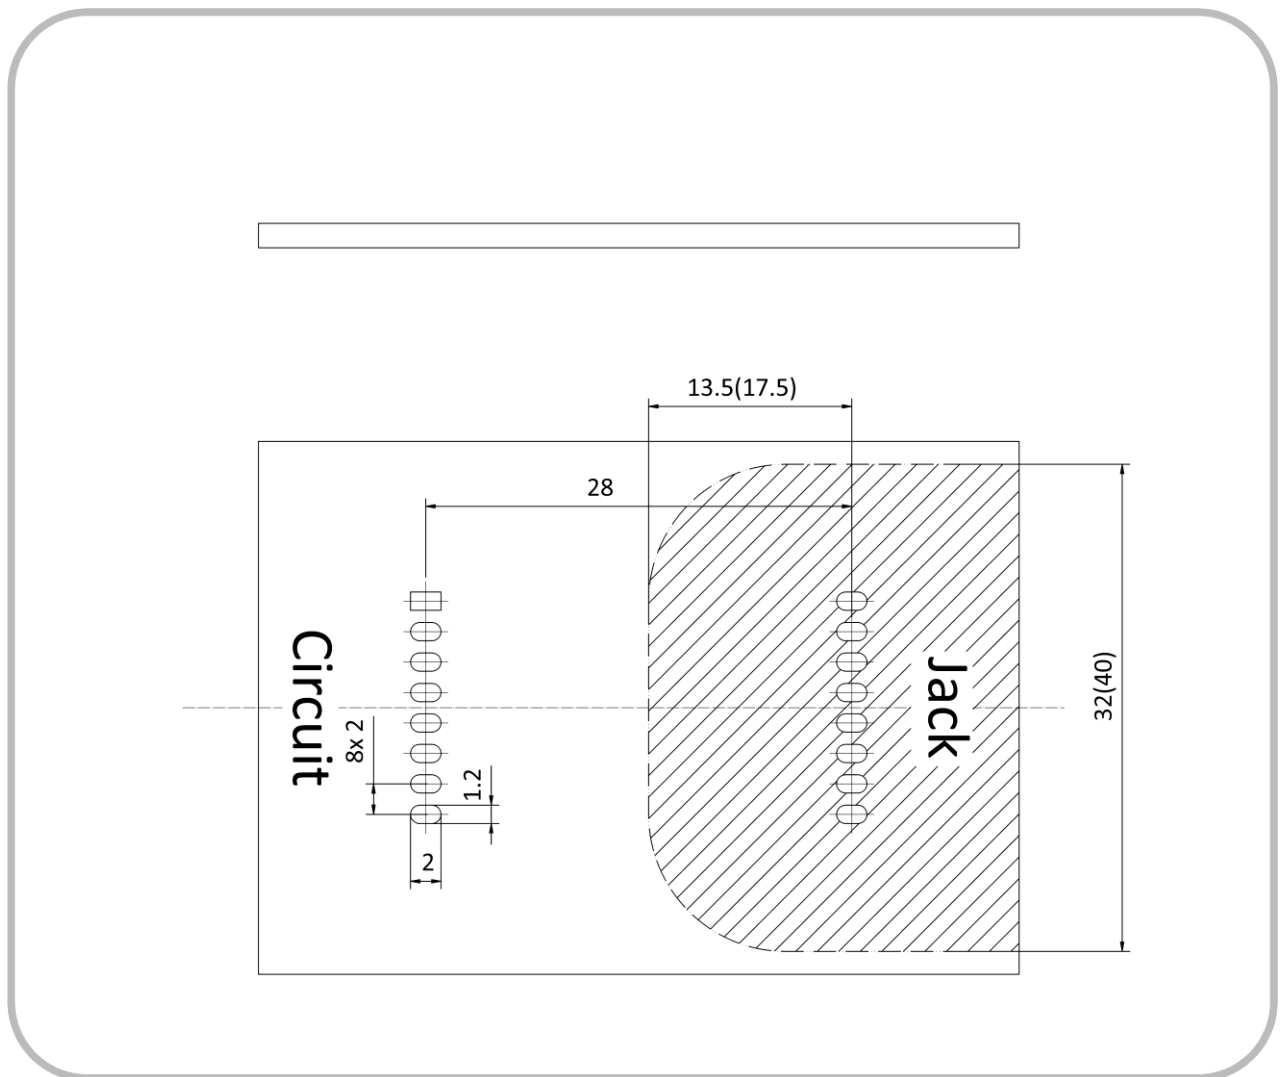

Figure 12. Suggested PCB layout for the EN-100C.
The dimensions of the hatched area are based upon requirements for realising two means of patient protection (MOPP) for medical electrical (ME) devices. For such ME applications, those with operating voltages of up to 250 V AC require the dimensions indicated in Figure 12 to be met or exceeded, and those with operating voltages of up to 400 V AC require the dimensions indicated in parentheses in Figure 12 to be met or exceeded.